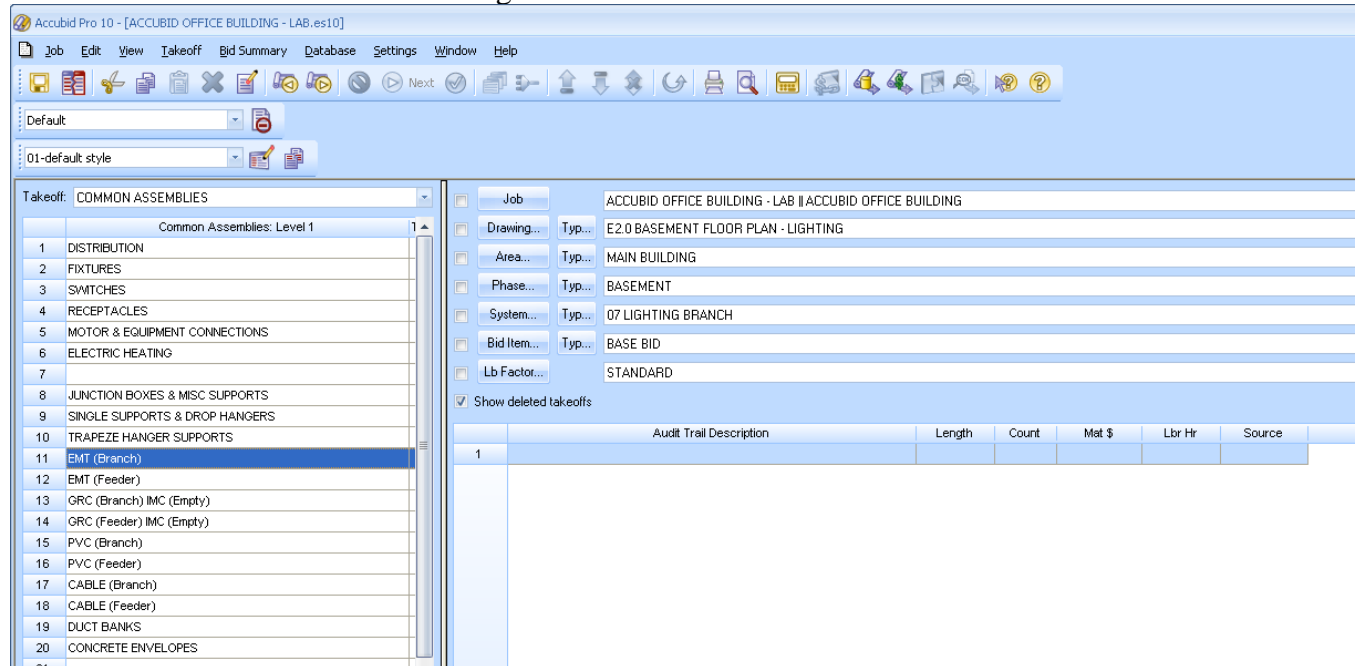

Figure 1
6. Set the Breakdown as shown in Figure 1.